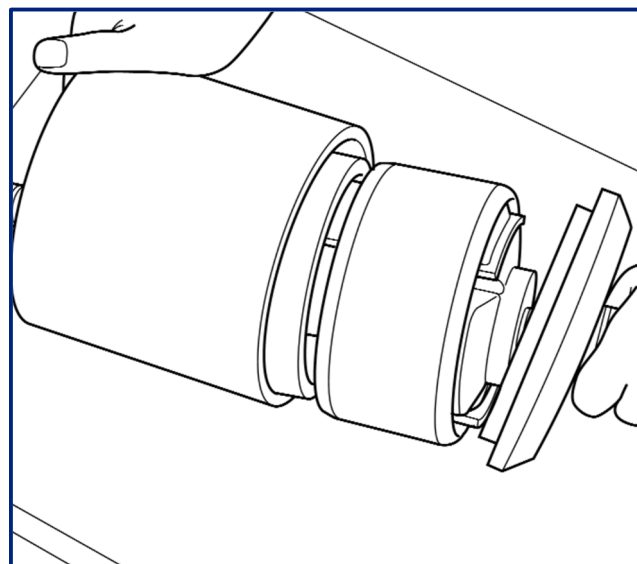

Fig 22
15. Dismantle the tooling and remove the pivot bush from the funnel "D" (Fig 22).